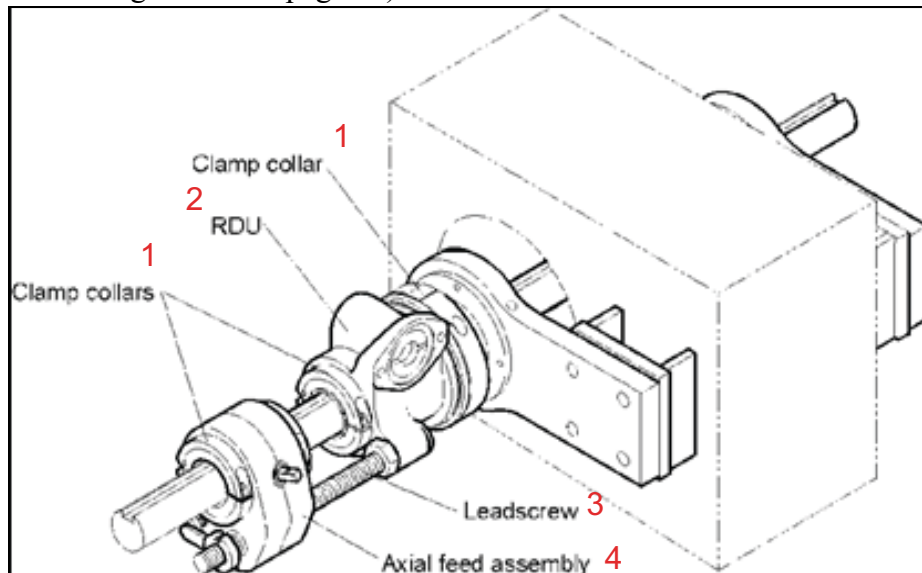

FIGURE 4-2. AFU DISASSEMBLY COMPONENTS
4. Loosen the clamp collars holding the axial feed unit (AFU) to the bar (see Figure 4-2 on page 56).